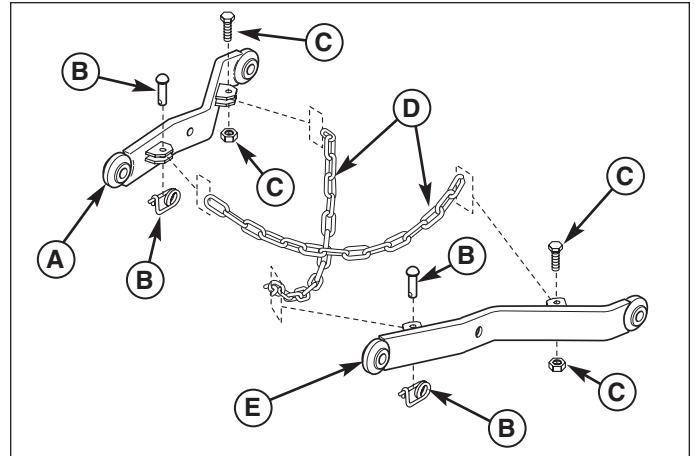

Figure 13. Install Chains
3. Attach the sway chains (D, Figure 13) to the back of the sway arms (A, E) using 3/8 x 1-1/2 capscrews (C) and 3/8 locknuts. Cross the chains and secure to front of the sway arms with clevis pins and hair pin clips (B).